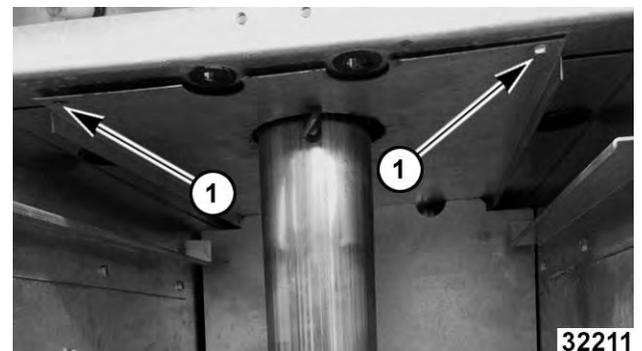

Fig. 20
2. Remove splash cover mounting screws (1, Fig. 20). Slide cover forward to remove.